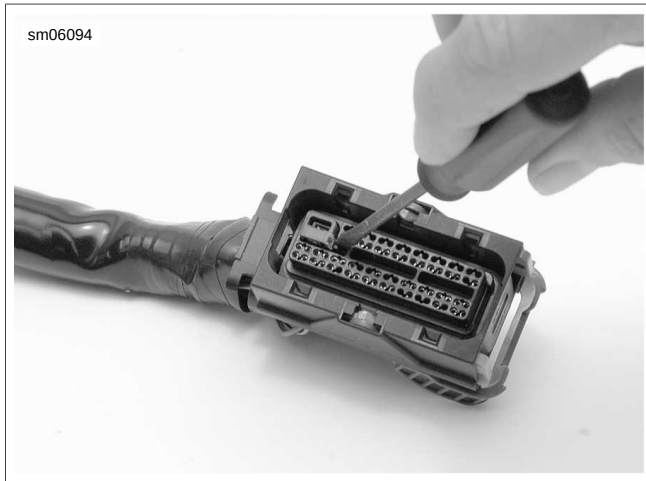

Figure A-24. Remove Ground Secondary Lock
2. See Figure A-24. Using a thin blade screwdriver, gently pry ground terminal retainer from connector housing.